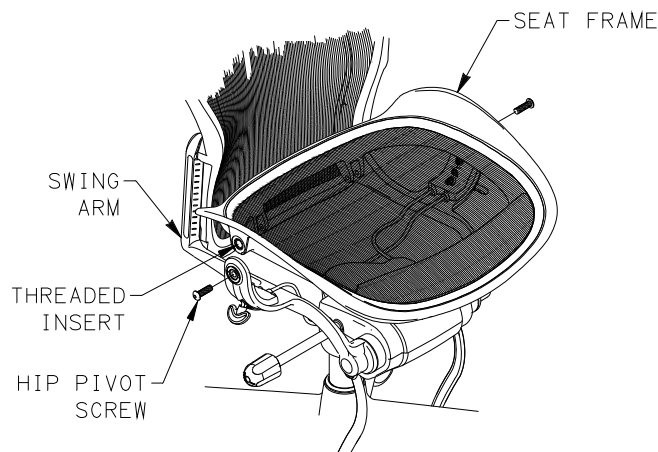

FIGURE 3
17. PLACE SEAT FRAME BETWEEN SWING ARMS ALIGNING HOLES. SECURE SEAT TO SWING ARMS WITH HIP PIVOT SCREWS. TIGHTEN AND TORQUE TO 180-200 IN-LB. SEE FIGURE 3.